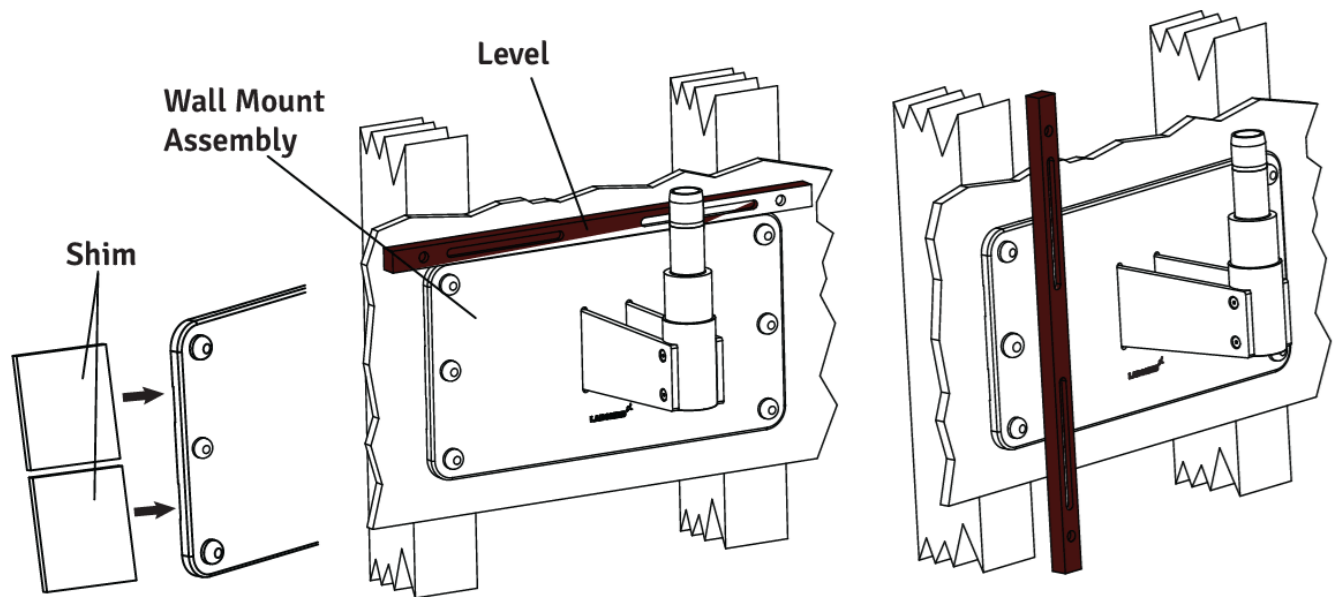

Fig. 22
2. Place a level across the top of the back plate to check the horizontal levelling. See Figure 22.
5. Place a level vertically along the face of the wall Mount, on both sides, to ensure it is perpendicular to the floor. See Figure 22.
- 3. Assemble the Arm on wall mount shaft referring fig.22 and Re-install the threaded plug into place.**